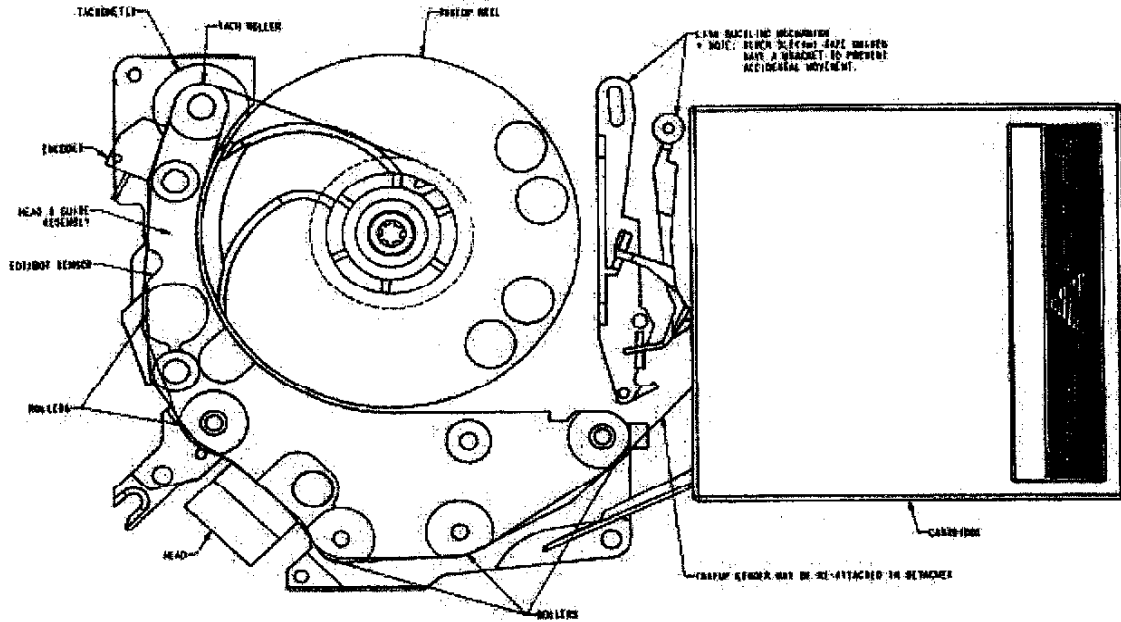
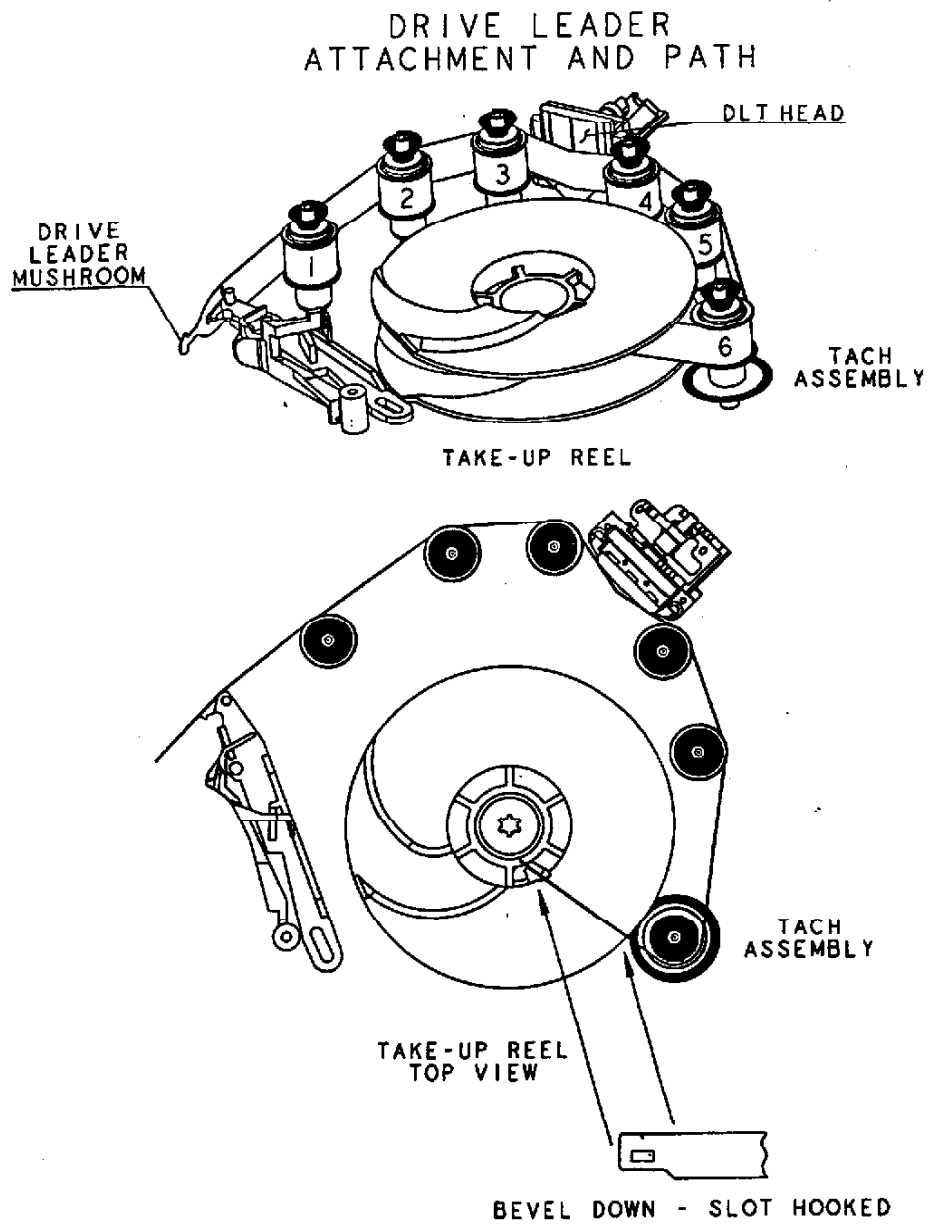

Figure 5 Tape Path
Figure 10 Drive Leader Attachment and Path
(For Tape Path refer to Figure 5 and Figure 10.)
5. Very carefully slide the leader in front of the head positioning the leader so that it enters the tape path and passes around all 6 rollers. Refer to the Tape Path diagram, Figure 10. Each roller has a flange that holds the leader in alignment and the mushroom end of the leader will protrude into the rear of the drive receiver.